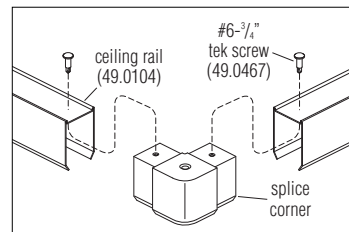

Figure 2 - Recessed Corner
- On all corners, insert the 90° splice corner (Figures 2 and 2A). Secure the recessed corner splice to the rail with #6 x $\frac{3}{4}$ " TEK screws (Figure 2). Between all channel sections, insert the 180° splice channel (Figures 3 and 3A).